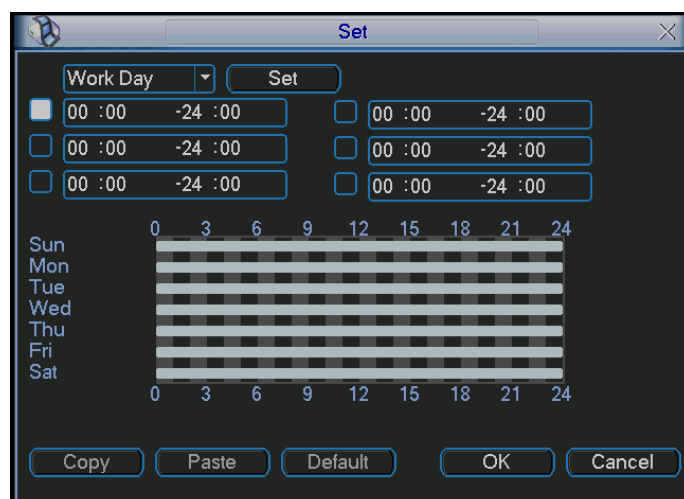
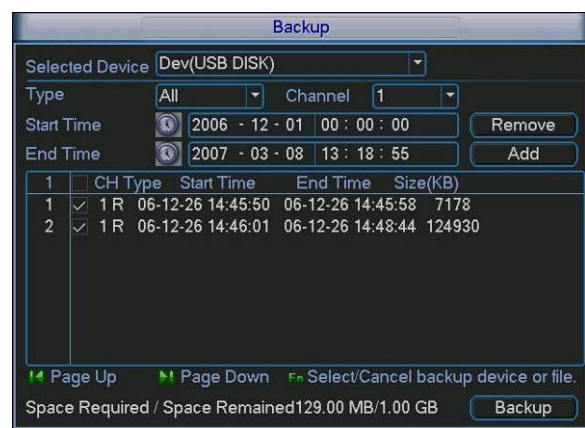
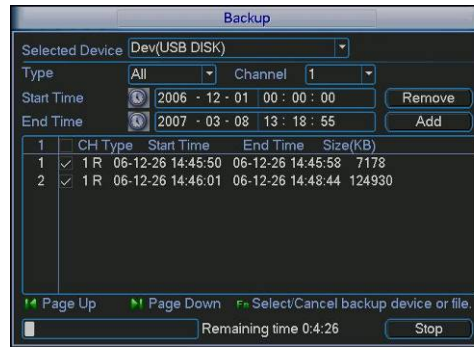

Figure 4-23
Figure 4-26
Figure 4-27
- Period: Click set button, you can see an interface is shown as in Figure 4-23. Here you can set for business day and non-business day. In Figure 4-26, click set button, you can see an interface is shown as in Figure 4-27. Here you can set your own setup for business day and non-business day.
System automatically calculates the capacity needed and remained. See Figure 4-26.
Click backup button, system begins burning. At the same time, the backup button becomes stop button. You can view the remaining time and process bar at the left bottom. See Figure 4-27.